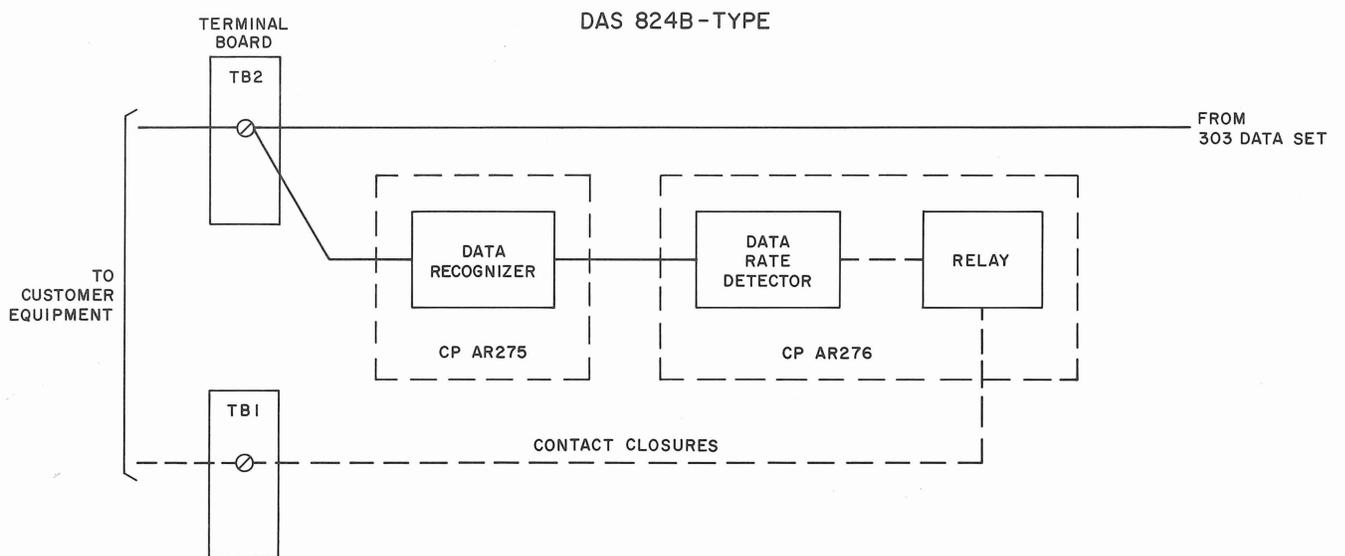

Fig. 5—Data Auxiliary Set 824B-Type, Functional Block Diagram
**2.15** DAS 824B-type consists of two functional units. (Refer to Fig. 5.)